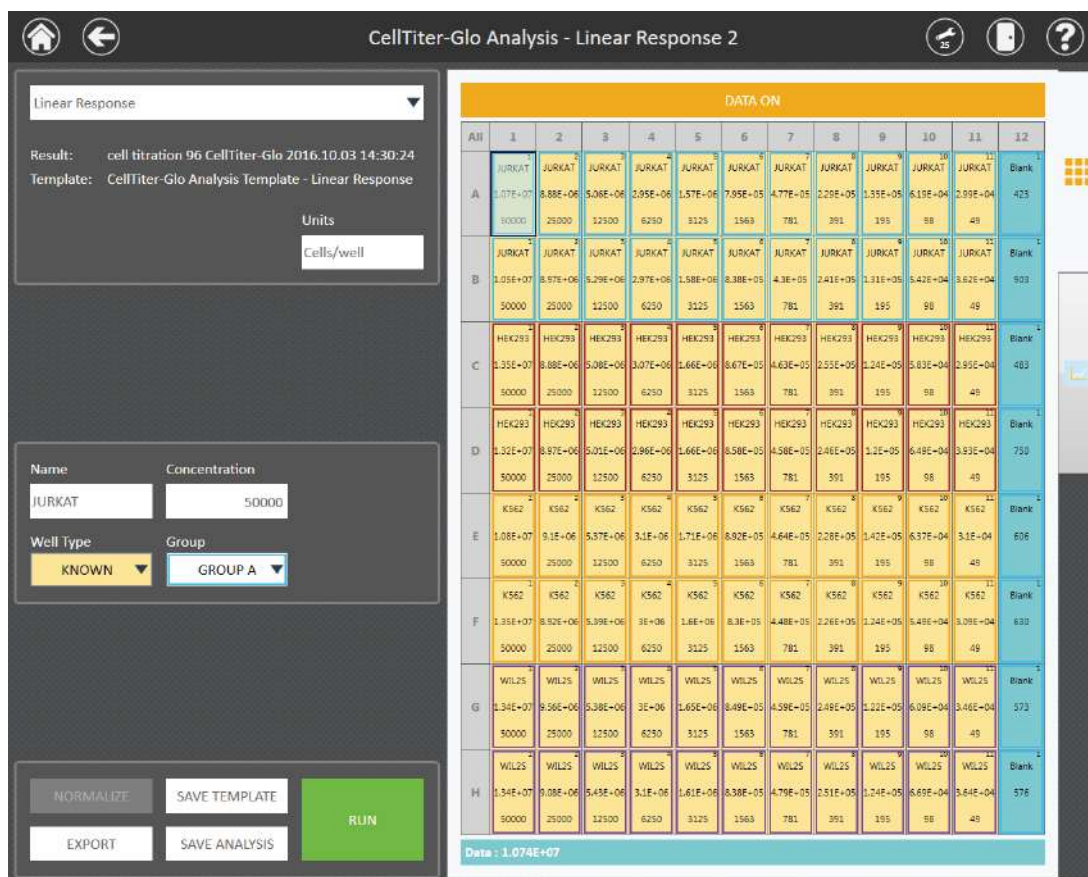

Figure 76. Once a template has been applied to the data, touch the Run button to analyze the results.
- Once a template has been assigned to the result file, touch the green **Run** button near the bottom of the left side of the screen to perform the analysis of samples (Figure 76). When the analysis is completed, an “Analysis has successfully completed” message will appear on the screen. Select **OK** to view the analyzed results.
Data from the plate read will be populated in the center of the wells on the plate map. To view results of a single-read analysis, toggle the data displayed in the wells of the plate using the **Data On/Off** button at the top of the screen (Figure 76).